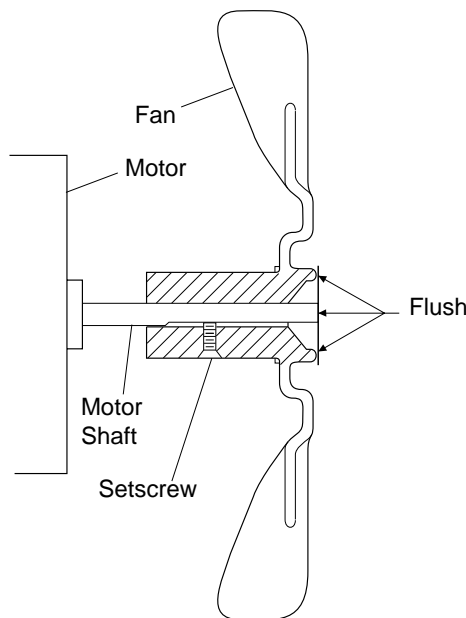
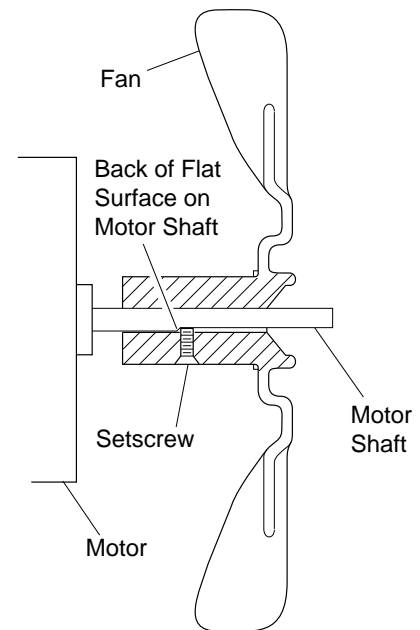

Figure 9 - Fan Cross Section 35/50/55/70/100/110,000 BTU/Hr Models
Figure 10 - Fan Cross Section 150,000 BTU/Hr Model
6. (35/50/55/70/100,000 BTU/Hr Models) Replace fan on motor shaft. Place fan hub flush with end of motor shaft (see Figure 9). (150,000 BTU/Hr Model) Replace fan on motor shaft. Make sure set screw is touching back of flat surface on motor shaft (see Figure 10).